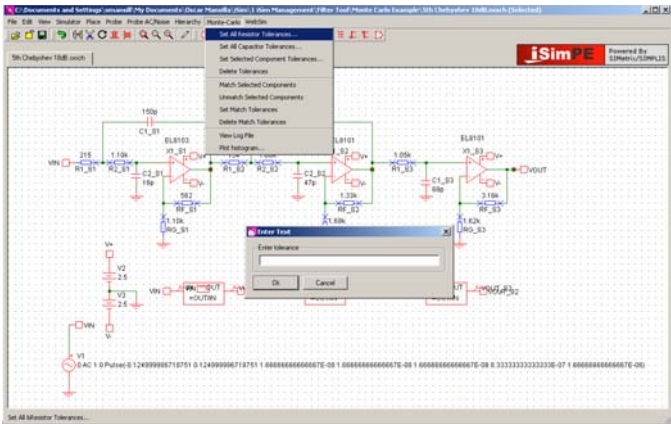

FIGURE 40. ENTER TOLERANCE WINDOW
2. An input box will pop up (Figure 40), enter the tolerance of the resistor in this case it would be 2% (must include the ‘%’ sign). You will see a “2%” over the resistors when you are done.